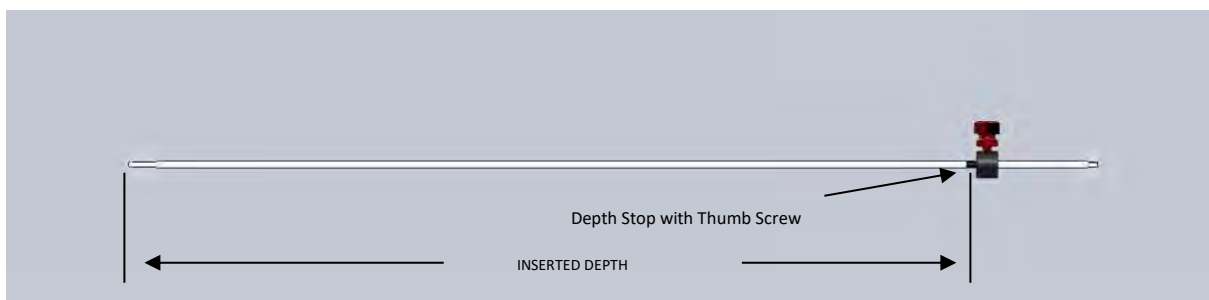

Figure 17: Stylet and Depth Stop
5. When utilizing the Depth Stop, the inserted depth of the Stylet is defined by the distal side face of the Depth Stop to the distal tip of the Stylet. Slide the stylet into Device Lock until Depth Stop rests on top of Device Lock. Then tighten Device Lock. Confirm the length using the Ruler. See Figure 17.